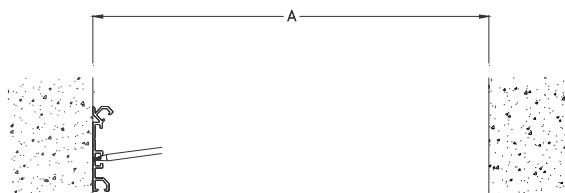

Figure 3
STEP 6. For concrete or masonry walls, select a base member and place it inside the joint in its properly installed position against the wall. Ensure that the front of the base member is 1/8" from the surface of the wall. This will allow the face seal to be nominally flush with the wall. Also ensure that the base member is level and properly aligned. Using the base member as a template, mark the locations for the anchor holes on the concrete or masonry (see Figure 3).